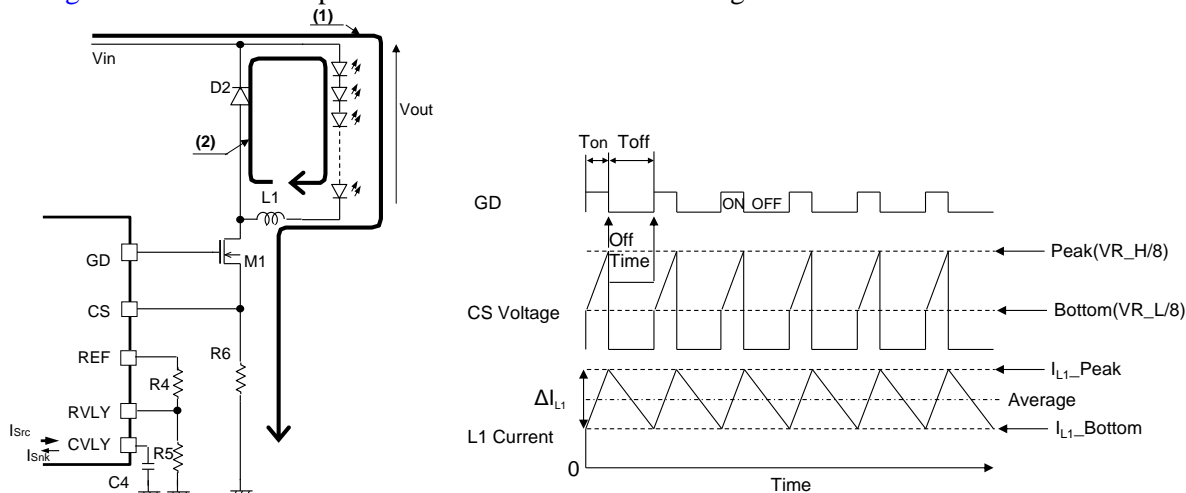

Figure 2. Operation Images of Buck Converter
Figure 2 shows current paths of a buck converter and voltage and current waveforms of each node.
The current of inductor  $L_1$  is controlled by turning ON and OFF the external N-channel power MOSFET (M1) with the GD pin output. The current path when the GD pin turns ON is shown as (1) and OFF is shown as (2) in Figure 2.